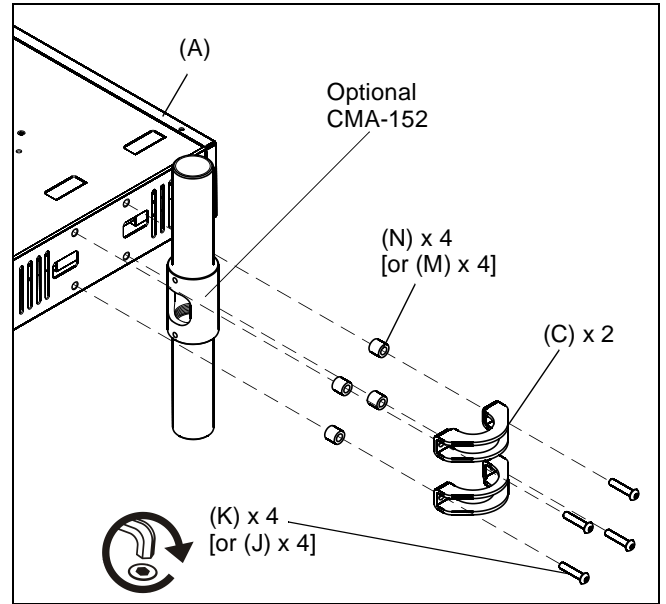

Figure 2
1. Attach CMA-170 to projector pipe mount using two pipe brackets (C), four 5/16-18 x 1-1/8" button head cap screws (K) and nylon spacers (N). (See Figure 2)
NOTE: If NOT using the optional CMA-152, instead use four 5/16-18 x 7/8" button head cap screws (J) and nylon spacers (M). (See Figure 2)